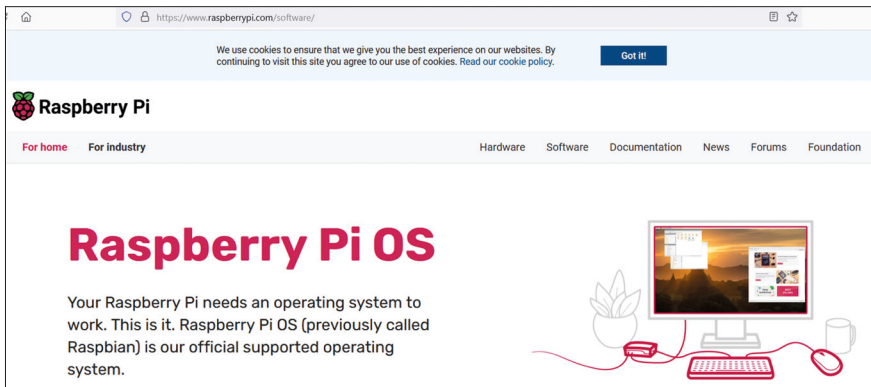

Figure 1.5: Raspberry Pi OS website.
- Go to the Raspberry Pi operating system website (Figure 1.5):